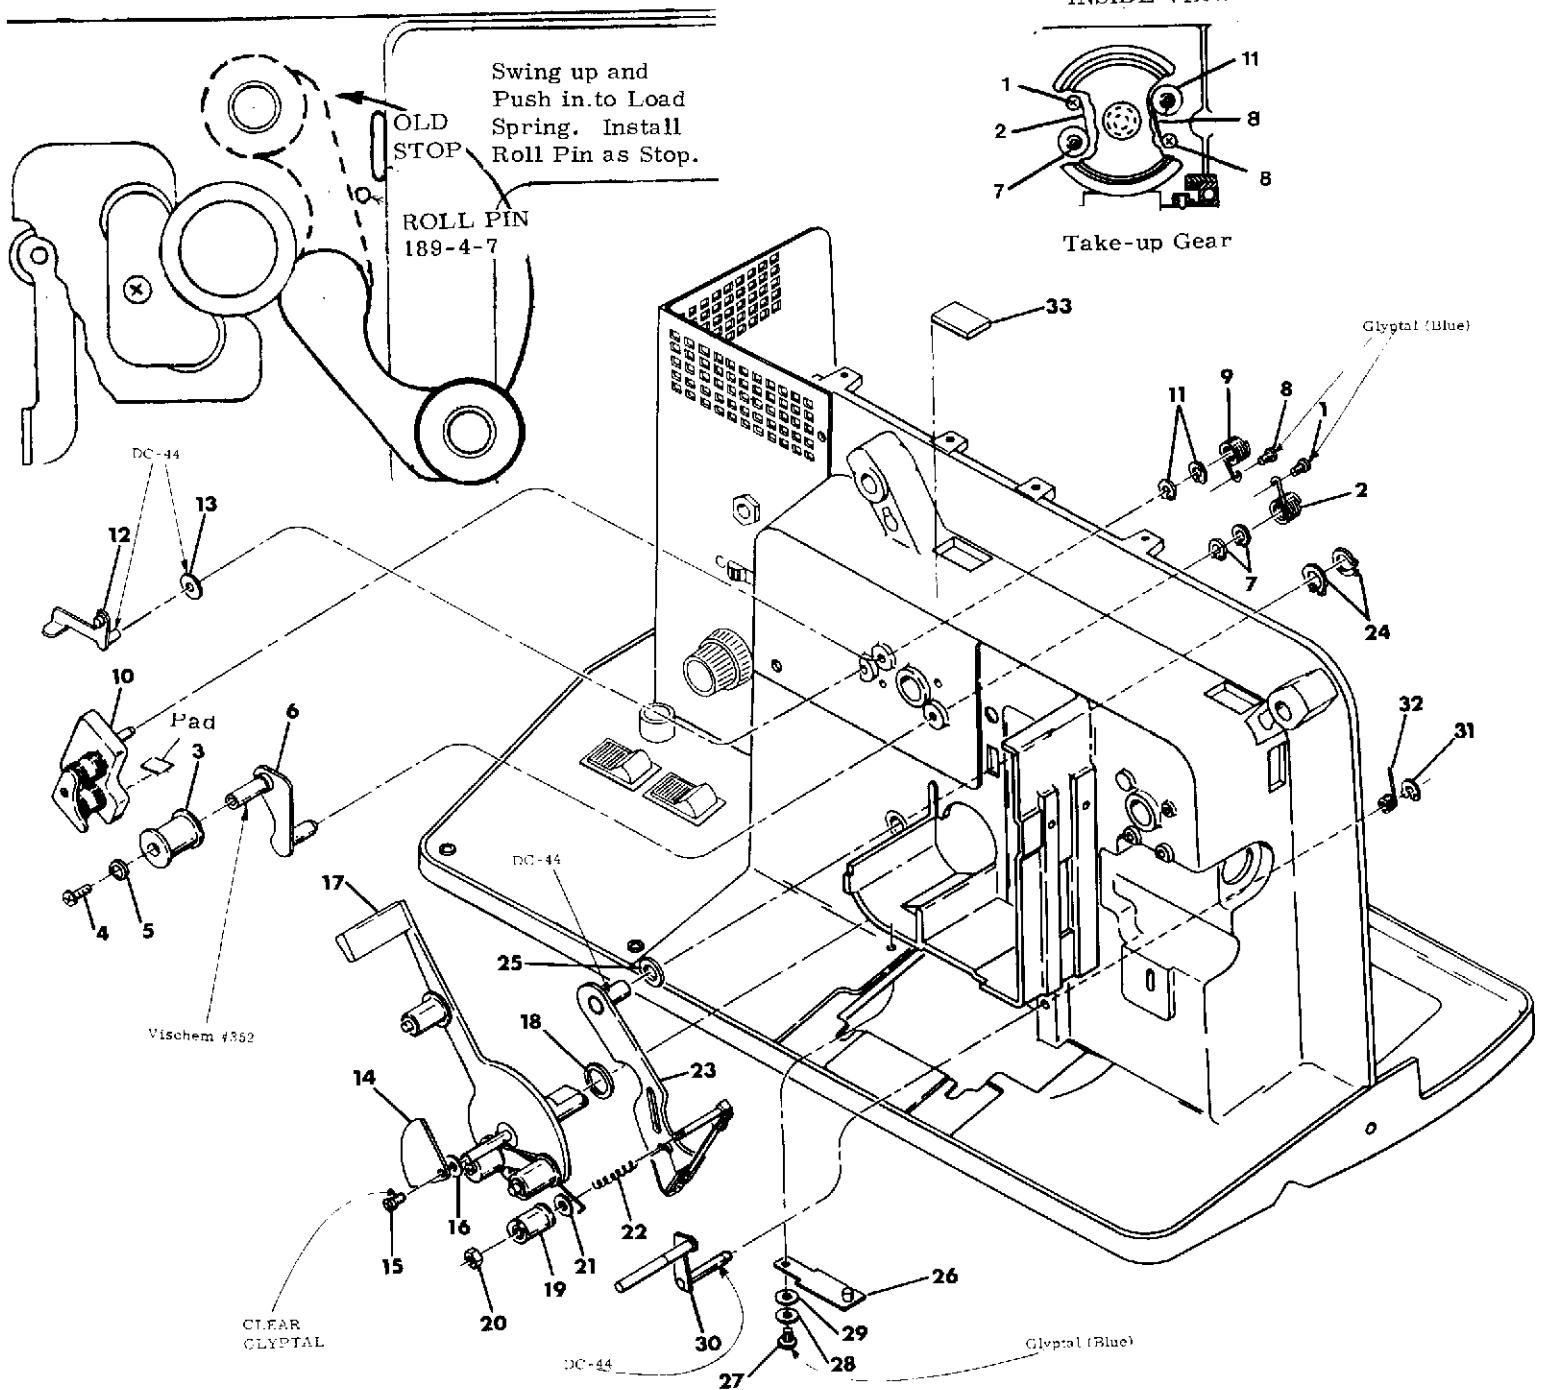

Figure 3-3. DISASSEMBLY AND REASSEMBLY
2. Open Takeup Sprocket Shoe Arm (10), Figure 3-3.
3. Loosen Screw (26) and hold Takeup Sprocket (25) while removing Takeup Gear (29).
Removal of Reel Tension Arm (Figure 3-3)
Reassembly of Reel Tension Arm to Projector (Figure 3-3)
- a. Use a prick punch to locate a hole just below and slightly behind the reel tension arm Stop molded as part of the main casting (note position in Figure 3-3)
2. Apply Vischem 352 lubricant to roller shaft of Reel Tension Arm and assemble Roller (3) to arm.
4. Assemble Reel Tension Arm to projector - allow it to hang down as shown in (Figure 3-3)
5. Assemble two new Grip Rings (7) to shaft, pushing them just past bottom of slot in end of shaft.
6. Assemble Spring (2) to main casting with Screw (1). Do not tighten screw completely.
7. Push tail of Spring (2) into slot in shaft by moving Reel Tension Arm to align slot with tail.
9. Push Reel Tension Arm snugly against main casting and push Grip Rings (7) up against inside of main casting. End play of Reel Tension Arm should be about $.005"$. (If provision was made in Step 1 for a Roll Pin Stop or if an existing Roll Pin had to be removed during this procedure, a new roll pin should be installed at this point. Hold the Reel Tension Arm back and insert a 189-4-7 Roll Pin, allowing it to protrude from front surface of casting about $5/32"$.)
10. Tighten Screw (1) and apply a coating of Glyptal 7526 to its head.
Reassembly of Takeup Sprocket Shoe Arm to Projector (Figure 3-3)